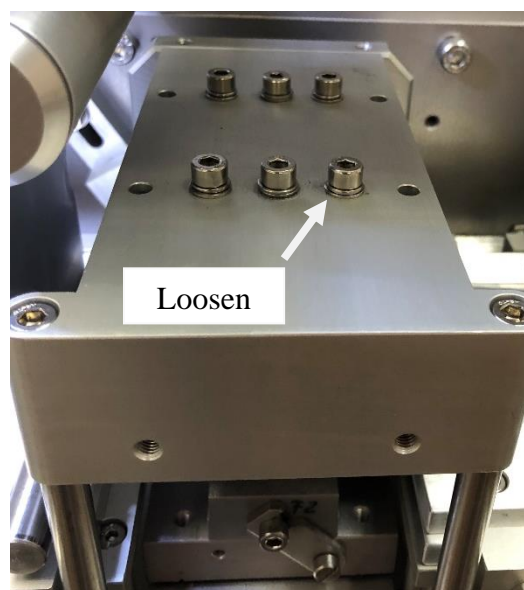

Figure 11
- Loosen (2) screws mounted on upper sealing station housing.
- Make sure orientation of upper die matches lower die before mounting. (Figure 11)